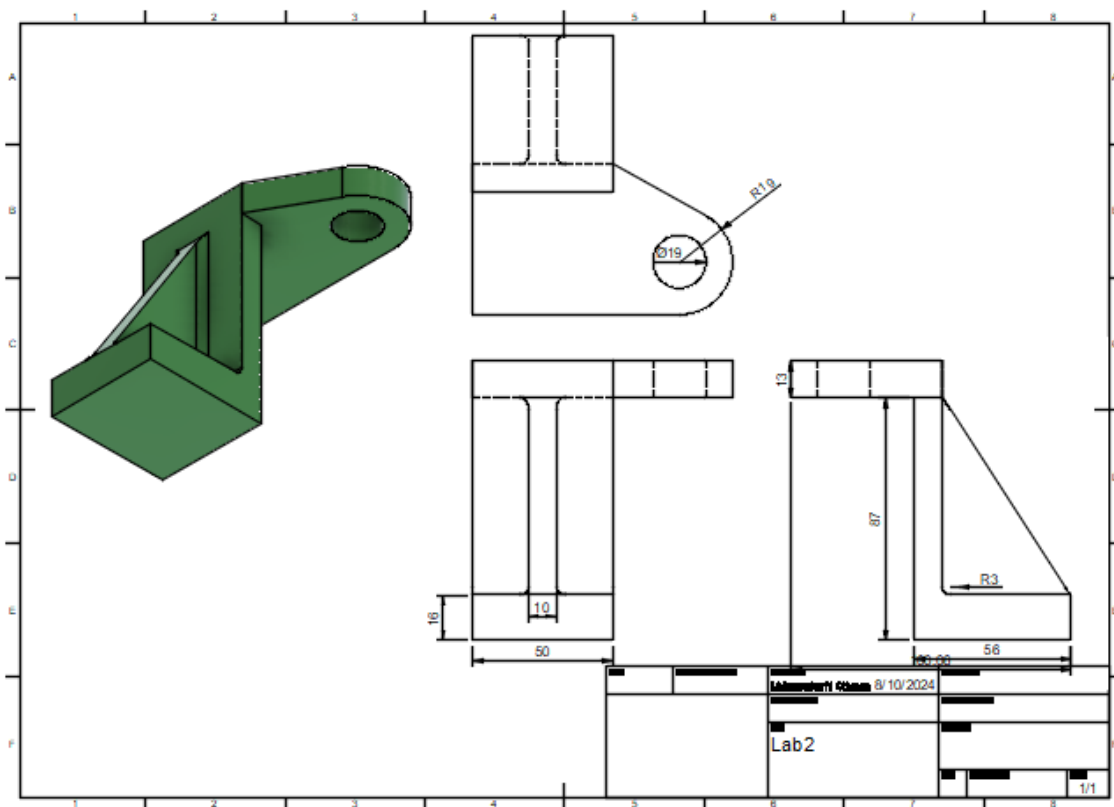

Fig. 17: Final 3D Model Drawing
24. Build your side view, top view as well as 3D isometric view as shown in Fig. 17. Double click the 3D isometric view and set the style to be “shaded”.
25. Click” Dimension” and set the dimension of your model. Your final 3D drawing is shown in Fig.17.